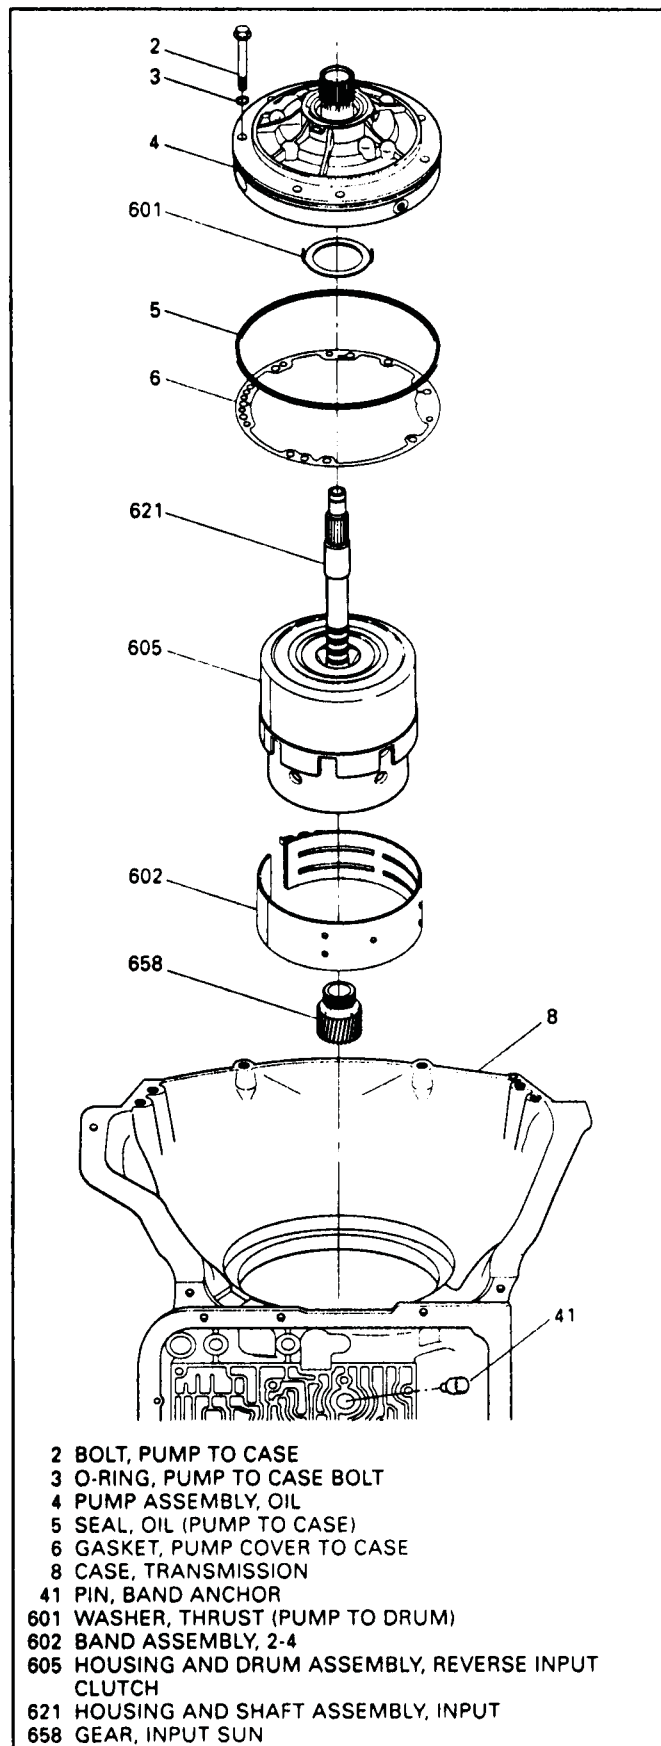

Figure 50
49. Remove band anchor pin from valve body side of case (See Figure 50).
50. Remove the input housing and reverse input housing together by grasping the turbine shaft and lifting (Figure 50).